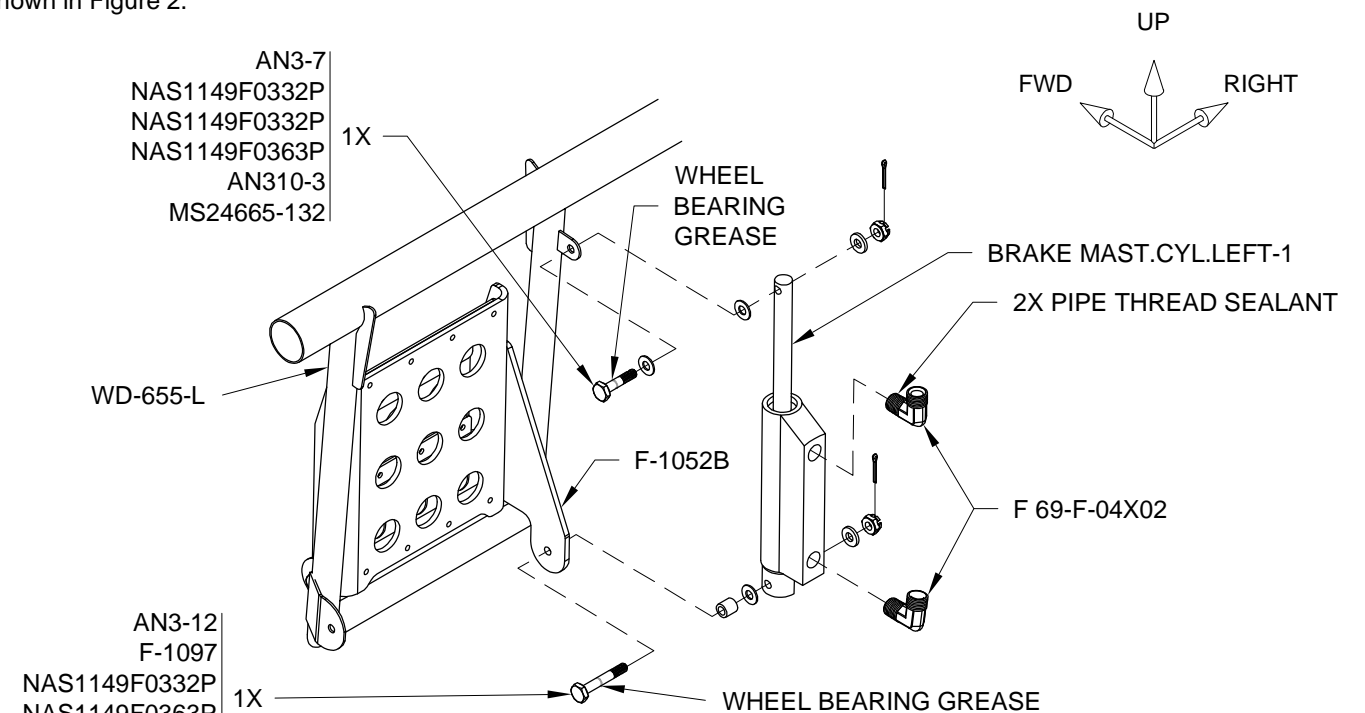

FIGURE 2: INSTALL BRAKE MASTER CYLINDERS
Step 5: Apply a thin coating of AeroShell #5 (or equivalent) wheel bearing grease to the bearing areas of the lower bolts as shown in Figure 2.
Step 6: Attach the four Brake Master Cylinders to the WD-655-L & -R Rudder Pedals and F-1052B Brake Pedal Side Plates as shown in Figure 2.